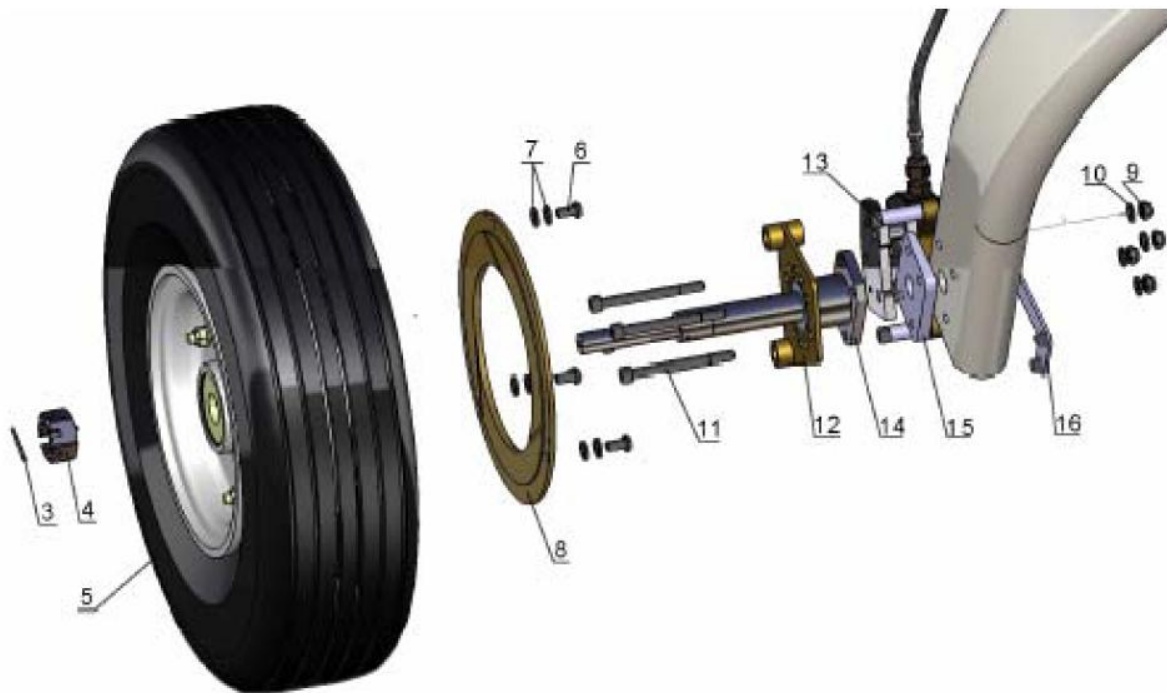

Fig 4
- remove wheel (Fig 4);
- unscrew 4 nuts M6 item 9, remove washers item 10, remove 4 bolts M6 item 11 fig.4;